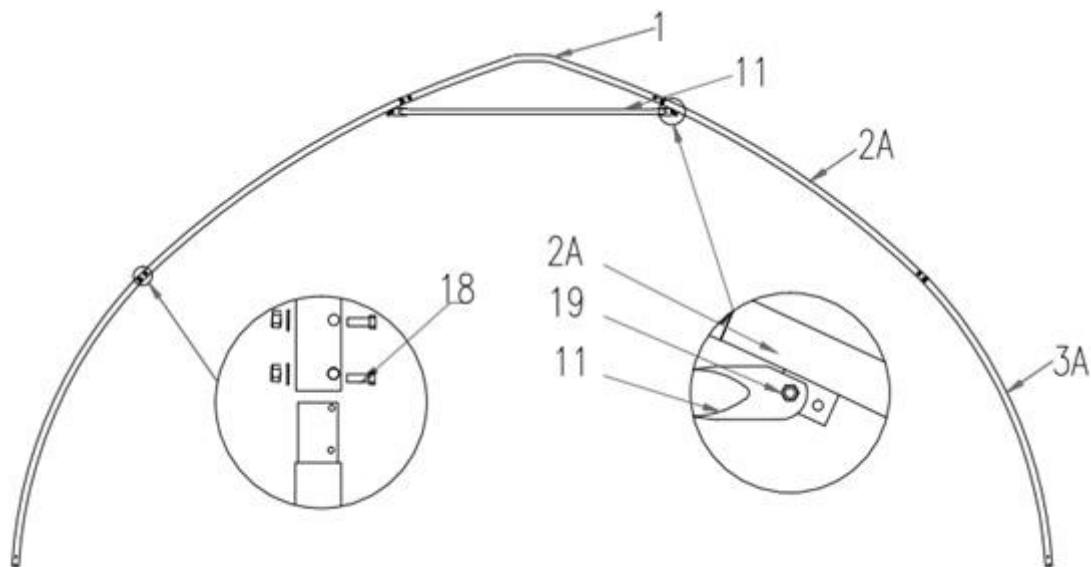

Figure 2
- The building includes 17 trusses : (1) Front truss (1st truss), (1) rear truss (17th truss), and (15) middle trusses. The front and rear trusses are installed with the fabric panel (#23).
- Both front and rear truss include the following parts. Connect all tubes with bolt (#18)(refer to figure 2).